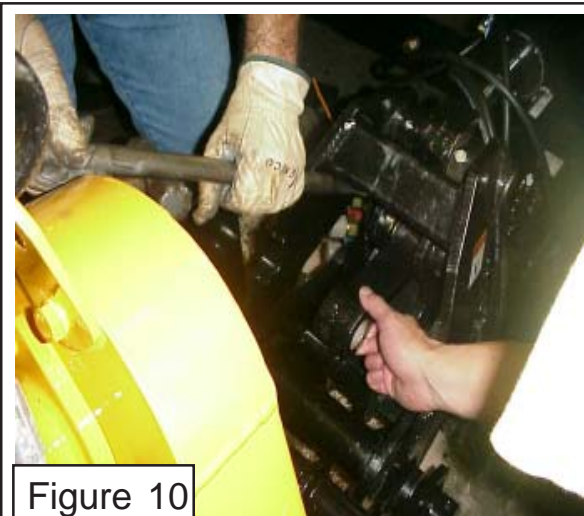

Figure 10
4. Install the Lift Lug Pin for the Tilt Cyl. Start the Lift Pin into the front side of the frame. Push pin through while holding the lifting lug into alignment, the other end of this lug is connected to the same pivot bracket as the cylinder is connected to. Sometimes it will be required to extent or retract the cylinder to align this lug. If you need to extend or retract the cylinder you can usually do it with a pry bar, but you may have to loosen the hoses to let pressure escape. The lift lug uses a retaining bolt and nut, if you need to align the retaining bolt hole in pin with hole in the mounting frame. The pin has a head welded on to it in the front side that can turned by using a large pair of pliers or a pipe wrench. Align pin and install retaining nut and bolt. (See Figure 10, 11 & 12) NOTE: The two holes where cylinder can be connected, which hole determines what degrees the head will fold into transport.